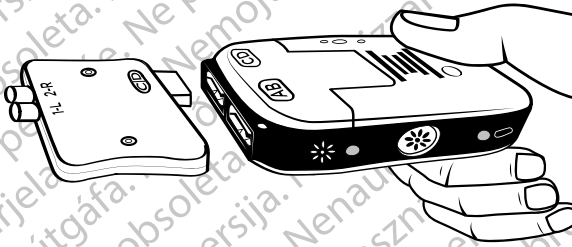

Figure 15. Connection of the ETS Adapter to the ETS 2
3. Plug the ETS Adapter into the ETS 2 Port labeled "CD" (Figure 15).